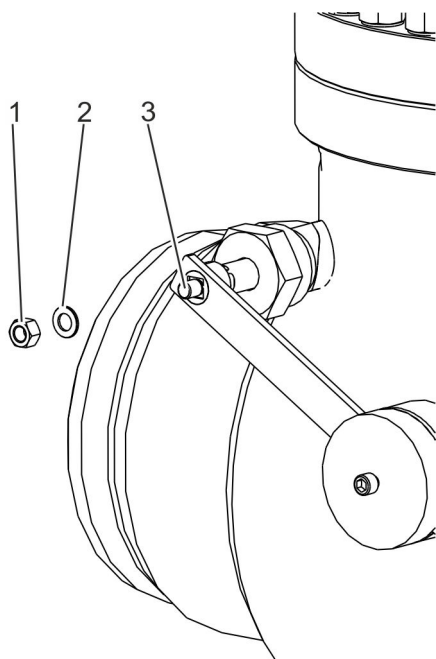

Fig. 45: Fastening the lever arm
- 21.** ▶ Fasten the lever arm with washer (Fig. 45/2) and nut (Fig. 45/1) to the valve shaft (Fig. 45/3).